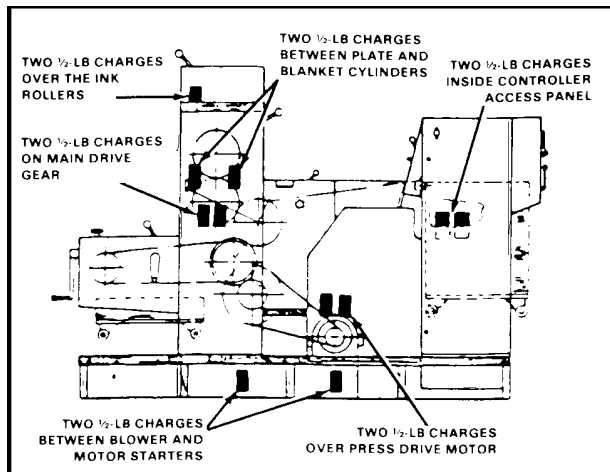

Figure 1. Offset press (single-color)
a. Explosives. Figures 1 through 4 are examples of placement of explosive charges. Place as many of the charges as the situation permits and detonate them simultaneously with a detonating cord and a suitable detonator.